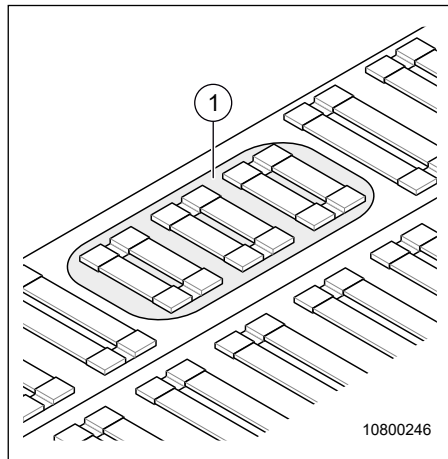

Fig. 58 Fresh water tank service hatch
2. Remove the service hatch (Fig. 58, Pos. 1).
6. Close the service hatch (Fig. 58, Pos. 1).